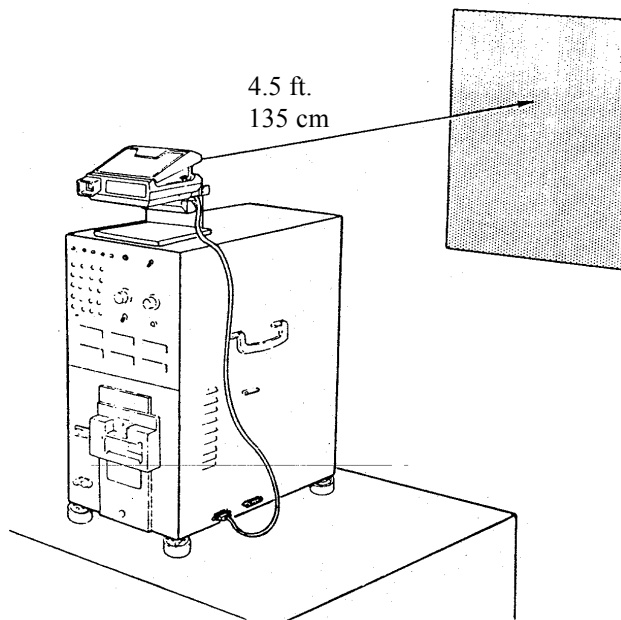

Figure 3-7 Locating Tester in Relation to Graywall Target
2. Locate the Tester on a bench or table so that when the Spectra on its Horn is placed on the top of the Tester, the Spectra lens will be exactly 4.5 feet (135 cm) from a graywall target. Also, be sure that the front of the camera is parallel to the graywall (or the long axis of the camera, front to back, is at right angles to the graywall). See Figure 3-7.